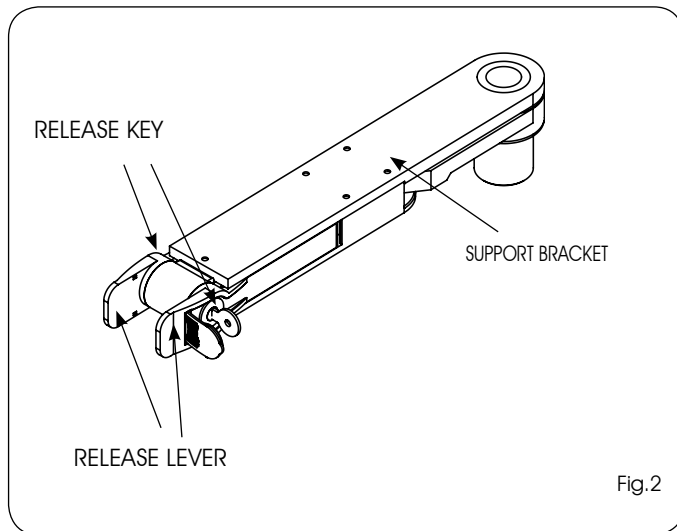

Fig.2
- 1) Move the release lever back to its rest position (Fig.2)